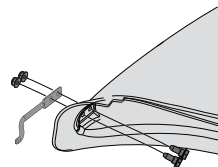

Figure 18
- From the inside of the boot, put the two hex head screws (738-1225), from hardware pack 689-02199, through the holes at the bottom front of the boot. See Figure 18.
- Put the mounting rod (747-06309) in place over the hex head screws. Make sure the tip of the rod is facing out from the boot. See Figure 18.
- Begin threading the two flange lock nuts (712-04064) onto the hex head screws. See Figure 18.